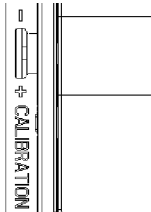

Figure 1
- Dimmer may require adjustment to the low end setting to reliably start and/or remove flickering in bulbs. To adjust, DISCONNECT POWER FROM CIRCUIT, and remove the Wallplate. Use a small insulated, flat tipped screwdriver to adjust the trim pot wheel, which is accessible via the slot (marked “CALIBRATION”) provided on the strap (Figure 1). Turn the wheel **downwards to increase** the minimum light intensity setting and turn the wheel **upwards to decrease** light intensity. Next, install the Wallplate, restore the power and test. Repeat above as necessary.